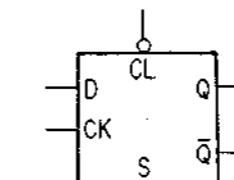
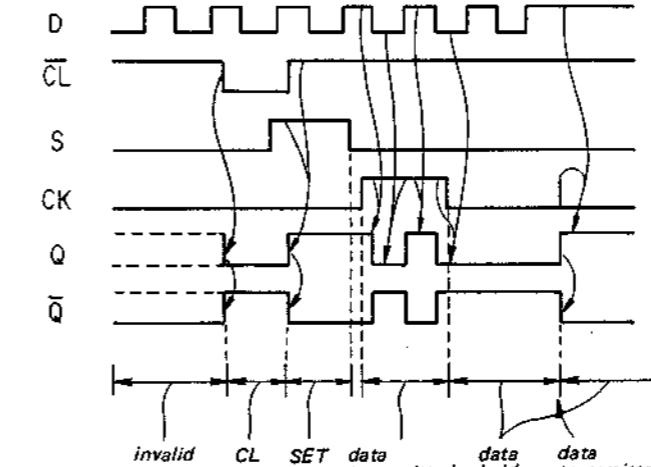

Fig. 2-1
Fig. 2-2
- The CL(R) (clear or reset) and the S(set) input in a D type FF get the priority over the D(data) and the CK(clock) inputs. That is, the D and CK inputs will be ignored if the CL(R) or the S input is present.
- The input symbol represents that the input is active HIGH if there is no circle at the input at the gate and if a circle is present, then that input will be active LOW. For example, the FF in Fig. 2-1 is cleared when the CL (clear) input drops LOW.
- Fig. 2-2 shows the timing chart of the operations of a D type FF shown in Fig. 2-1.